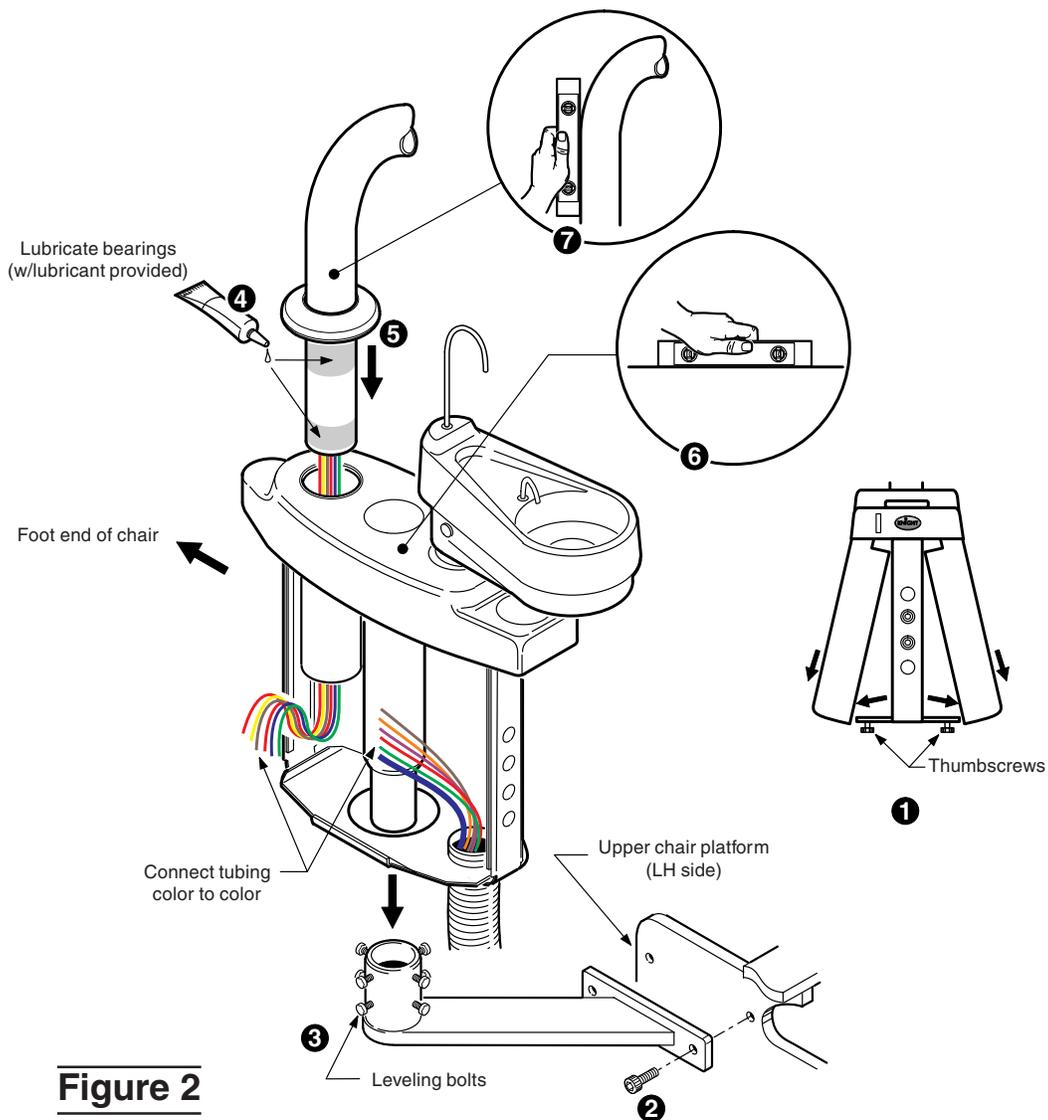

Figure 2
1. Remove both console covers by loosening two thumb screws on the underside of the console (See Figure 2).